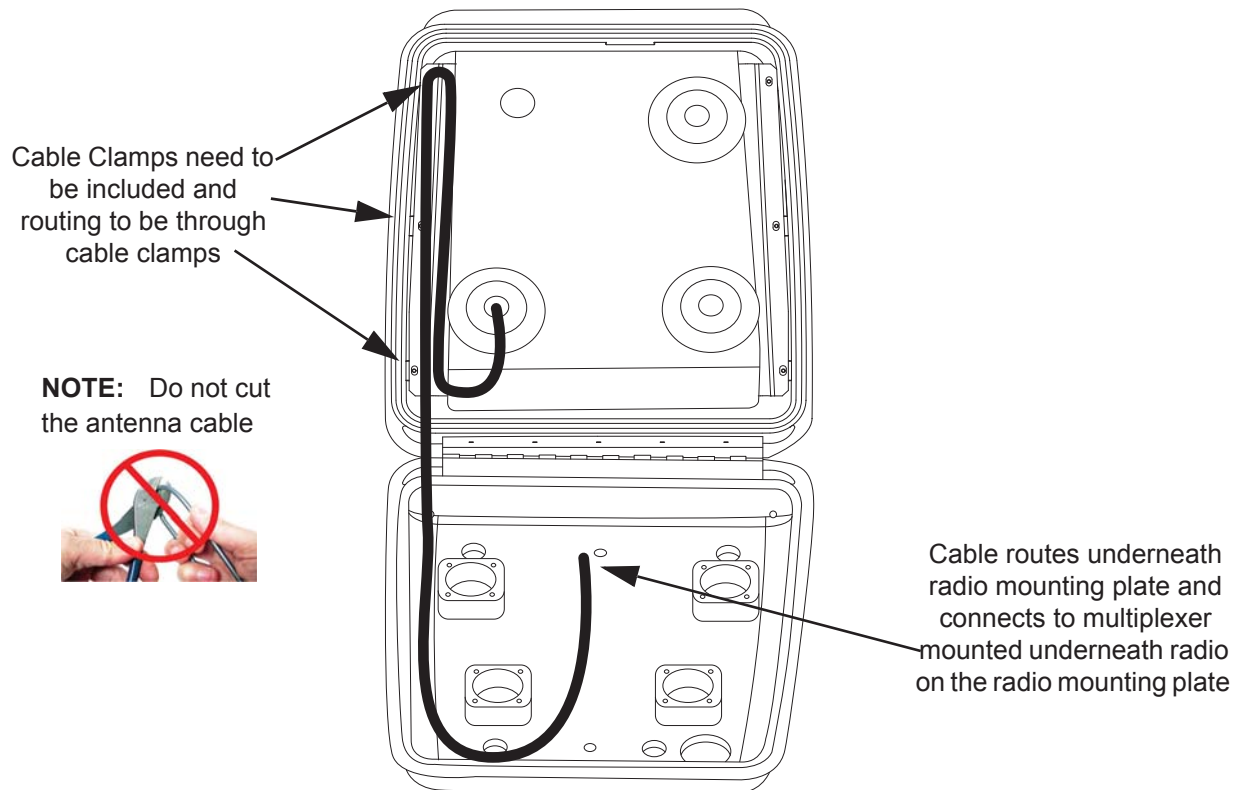
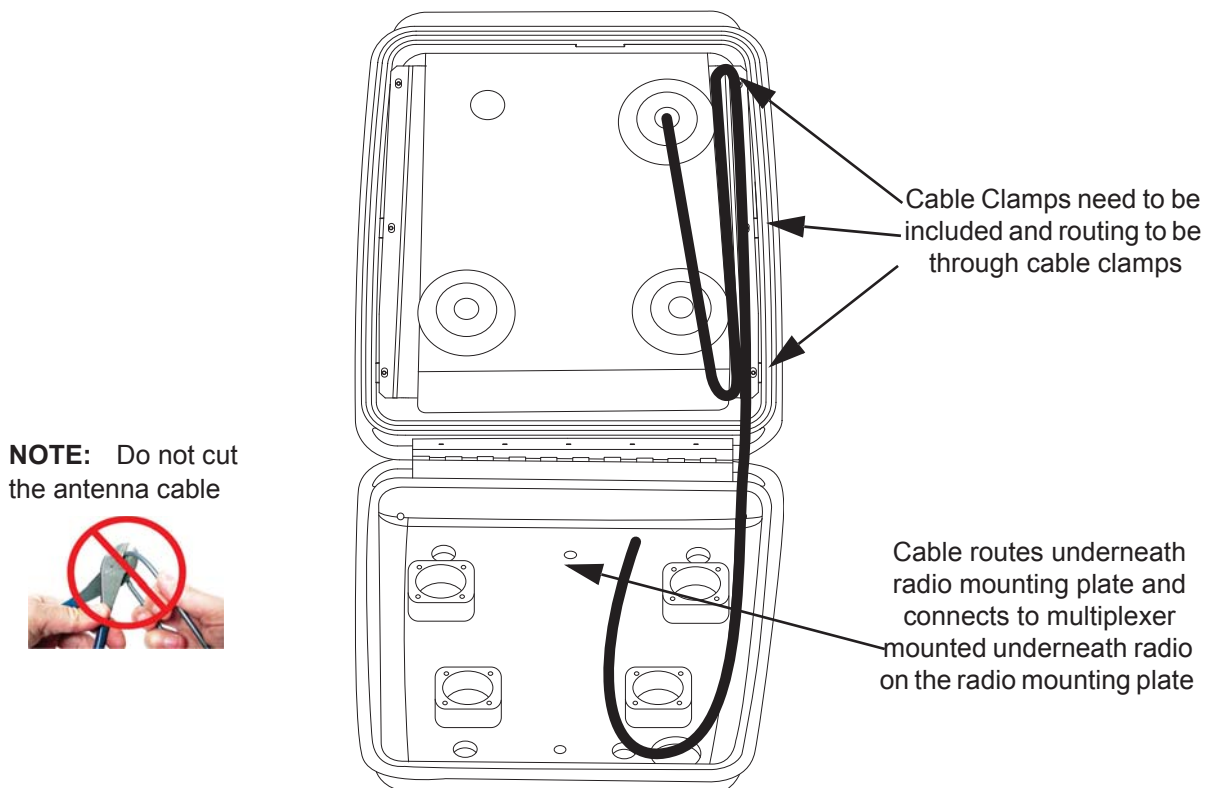
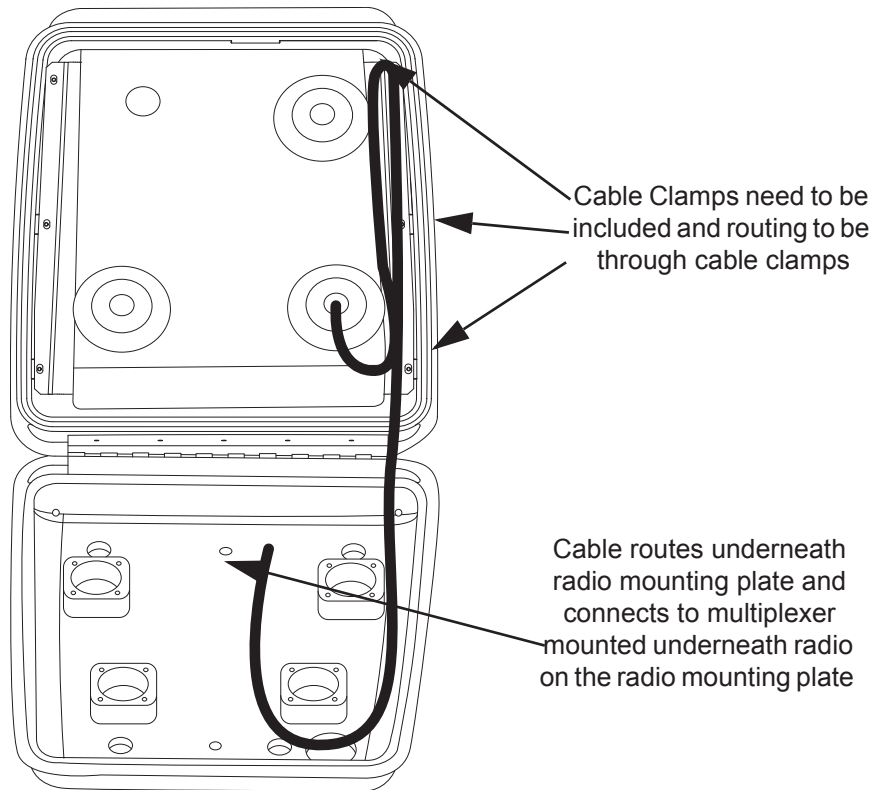

Figure 5-11. Routing the VHF Antenna Cable
Figure 5-12. Routing the 700/800 Antenna Cable
Figure 5-13. Routing the UHF Antenna Cable
13. Route the coaxial cable for the 700/800, VHF or UHF antenna(s) through the cable clamps per Figure 5-11 for VHF hole, Figure 5-12 for 700/800 hole and Figure 5-13 for UHF hole.